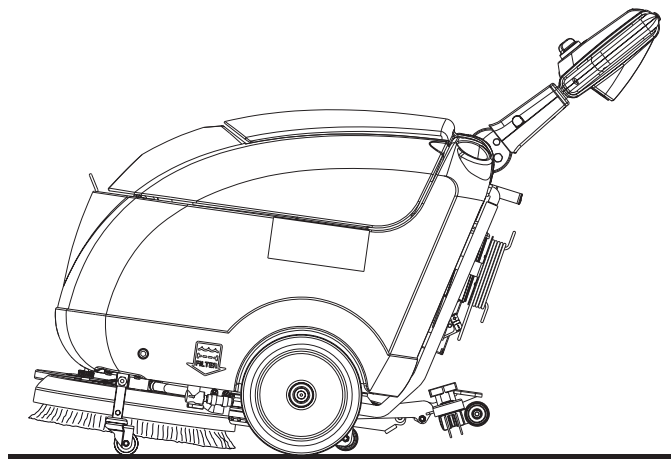

Figure 3
9. Release the brush levers (60) and the enabling push-button (59).
10. Turn the knob (52) to "0".
11. To turn off the machine, turn the main switch (3) to "0".
12. Disconnect the power supply cable plug (21) from the electrical mains and place it on the holder.
13. Engage the positioning pin (24) and activate the machine transport/parking device (23a) to keep the brush/pad-holder lifted (see Fig. 3).
1. To turn off the machine, turn the main switch (3) to "0".
2. Disconnect the power supply cable plug (21) from the electrical mains and place it on the holder.
3. Lift the squeegee (46).
4. Engage the positioning pin (24) and activate the machine transport/parking device (23a) to keep the brush/pad-holder lifted (Fig. 3).
6. In order not to drag the brush/pad on the floor and leave wet marks, when finishing working, remove the brush/pad-holder from the deck by using the disengagement procedure (see the next paragraph), then place it on the front holder (33).